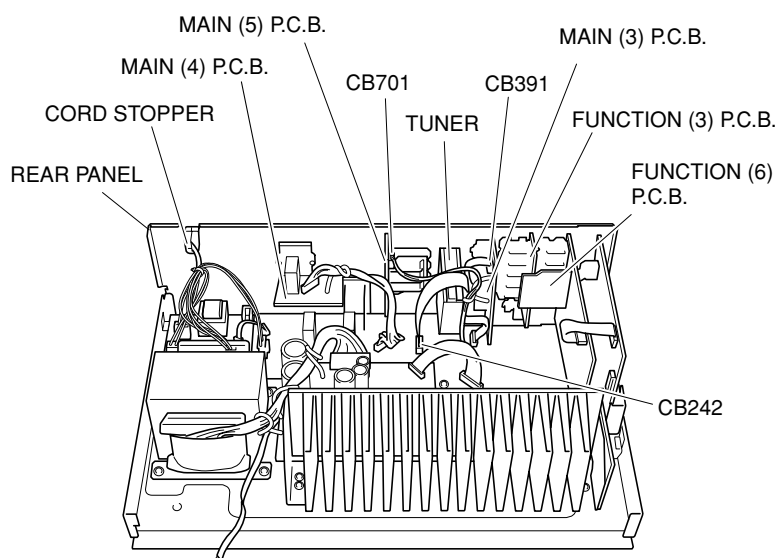

Fig. 2
3. Removal of MAIN (3) ~ MAIN (5), FUNCTION (3), FUNCTION (6) P.C.B.s and Tuner
- Remove CB242, CB391 and CB701. (Fig. 2)
- Remove MAIN (3), MAIN (5) P.C.B.s. and the Tuner. (Fig. 2)
- Remove Cord Stopper. (Fig. 2)
- Remove Rear Panel. (Fig. 2)
- Remove MAIN (4), FUNCTION (3) and FUNCTION (6) P.C.B.s. (Fig. 2)